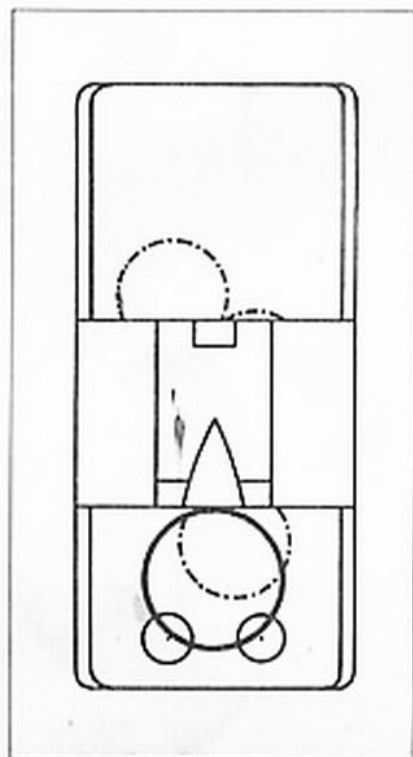
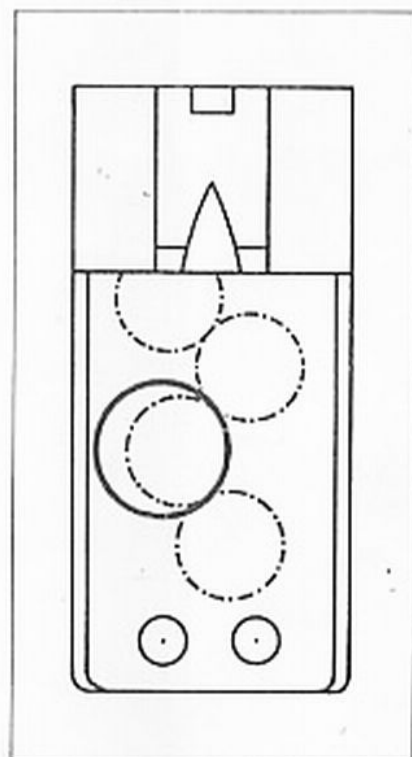
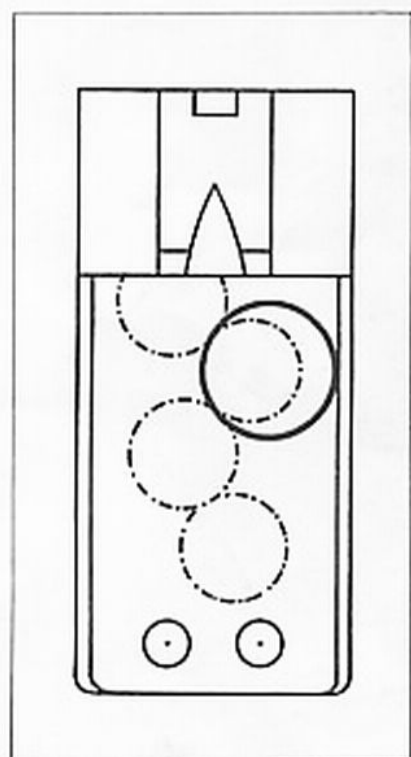

Fig. 2.3
Fig. 2.4
Fig. 2.5
- Place the watch upon the pick-up, claws closed (acoustic picking up, at the level of the quartz oscillator), see fig. 2.3
- press key 1
- Place the watch (with the display on the picking up side) upon the pick-up, claws open (capacitive picking up, at the level of the display), see fig. 2.4
- Place the watch upon the pick-up, claws open (inductive picking up, at the level of the stepping motor), see fig. 2.5
- press key 2
- set the measuring time by means of the adequate plate (13)
- Place the watch upon the pick-up, claws open (inductive picking up, at the level of the tuning fork), see fig. 2.5
- press key 3 (key 2 for any tuning-fork frequency that is not divisible by 3)
- Place the watch upon the pick-up, claws closed (acoustic picking up, at the level of the escapement), see fig. 2.3
- press key 4